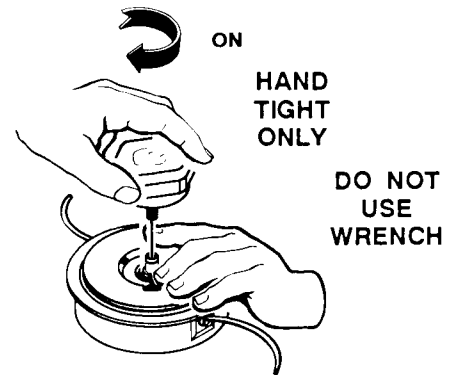

Figure 8-2E
7. Once the spool is in place, apply pressure on the spool compressing the spring. Pull each end of the line sharply to unlock them from the slots. Continue to apply pressure to the spool until the knob can be threaded CLOCKWISE onto the spindle. Tighten the knob securely by hand only. **DO NOT USE THE STRINGHEAD WRENCH TO TIGHTEN.** (Figure 8-2E)